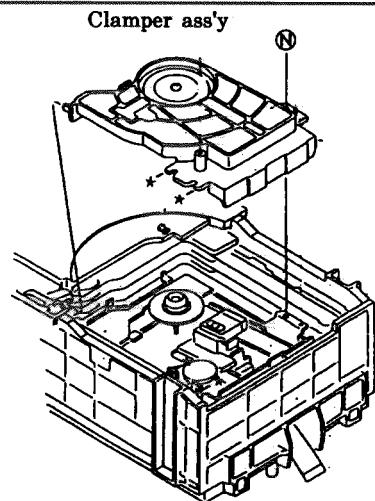

Fig.21
5. Remove a screw ③securing center of the clamperass'y. (See Fig. 21)